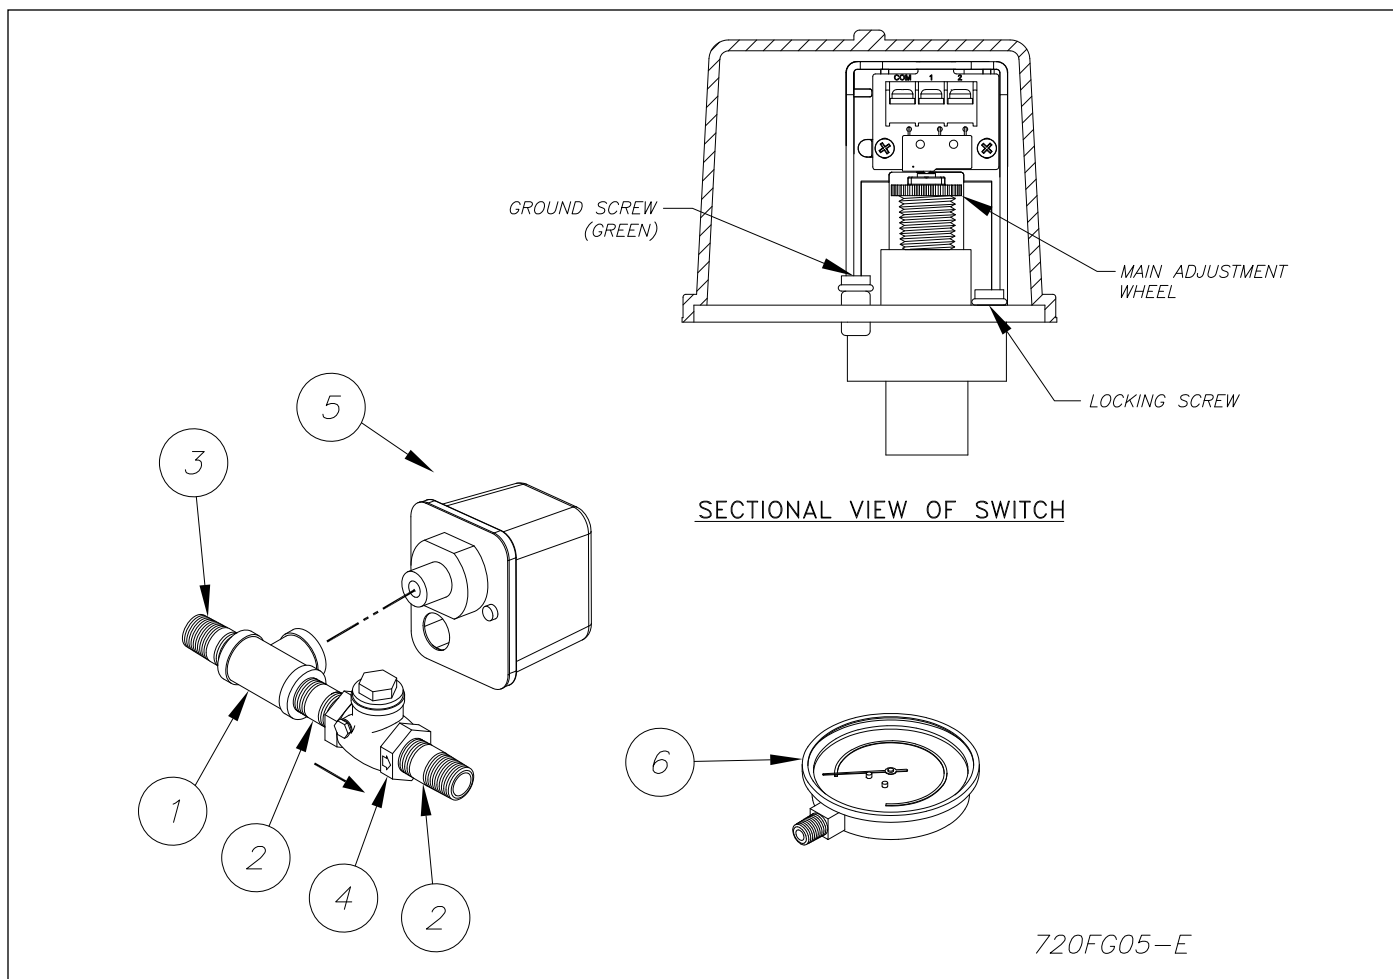

Figure 3 - Double Interlock
3. The Double Interlock Switch/Gauge Trim Kit (P/N 6501200110), illustrated in Figure 3, consists of items 1 through 6. Assemble the kit using a suitable PTFE - based pipe thread sealant applied to each male thread. Verify that the check valve orientation is according to the directional flow arrow illustrated.